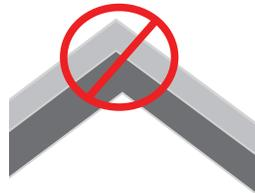

Fig. 2
- 2) Do not bend into 90° (Fig. 2)